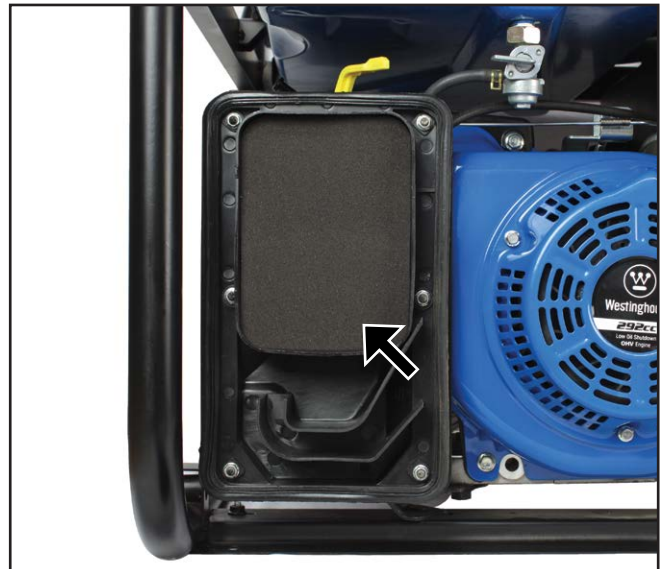

Figure 39 – Removing Air Filter Elements
5. Remove the two foam air filter elements while taking care to note their positions (see Figures 39 and 40). The black foam air filter element is the coarse stage and must be re-installed at the front directly underneath the air filter cover. The grey foam air filter element is the fine stage and must be re-installed at the back of the air filter assembly.
10. Re-install the air filter elements inside the air filter assembly box. Make sure the air filter elements are correctly positioned with the grey foam at the back and the black foam at the front closest to the air filter cover (see Figures 39 and 40).